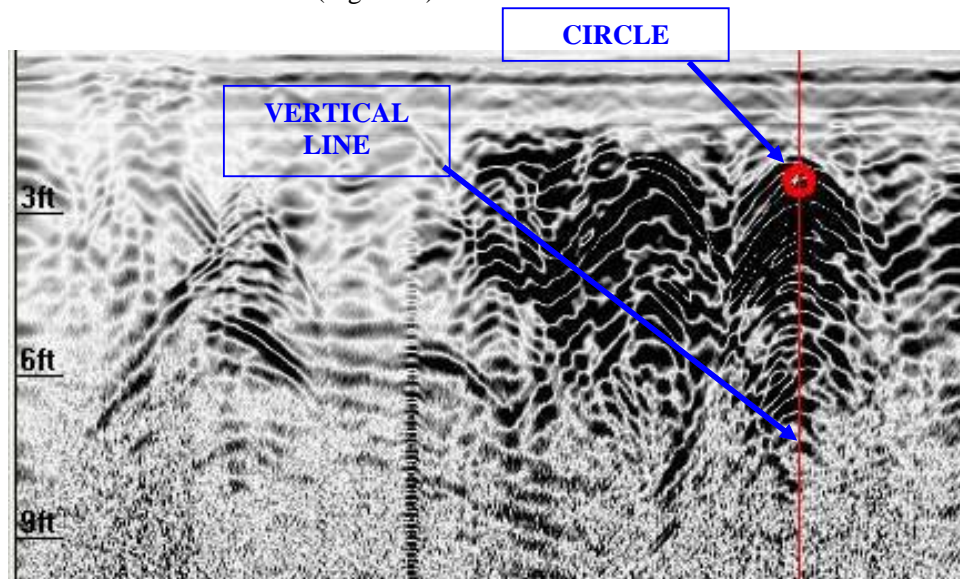

Fig. 5-15 – Insertion of a Marker during the review phase
- Press the **Review acquisition** button to review all the scans contained in the selected survey. The first radar map of the selected survey will appear, and more markers can be added if required. All previously identified hyperbolas will be marked with a circle and a vertical line (Fig. 5-15).
<p>Additional hyperbolas can be selected, or previously inserted information can be reloaded, using the mouse or the buttons on the lower tool bar. It is sufficient to click in correspondence to the vertical line shown in Fig. 5-15.</p>